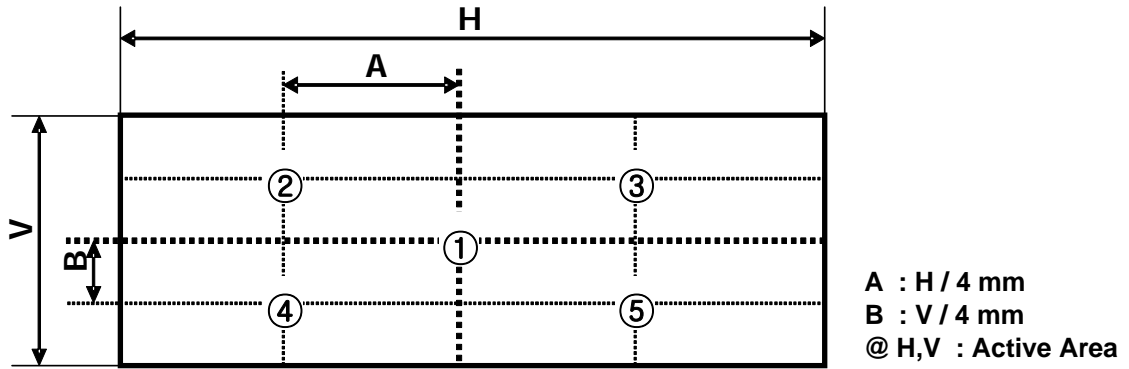

FIG.2 5 Points for Luminance Measure
2. Surface luminance are determined after the unit has been 'ON' and 1 Hour after lighting the backlight in a dark environment at  $25\pm 2^{\circ}\text{C}$ . Surface luminance is the luminance value at center 1-point across the LCD surface 50cm from the surface with all pixels displaying white. For more information see the FIG. 2.
For more information, see the FIG. 2.